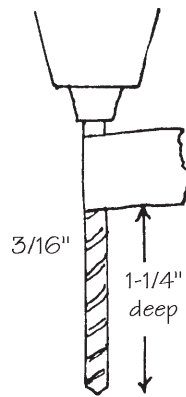

FIG. 13
- ___17. Now you can drill the holes for the tuning pins and hitch pins. A drill press would be helpful on this step, but not absolutely necessary. You can achieve good results with a hand electric (or cordless) drill, if you work carefully. Try your best to hold the drill straight (vertical) as you work. Wrap a piece of masking tape around the drill bit to mark the correct depth, as shown on the next page. (figs. 13 and 14)